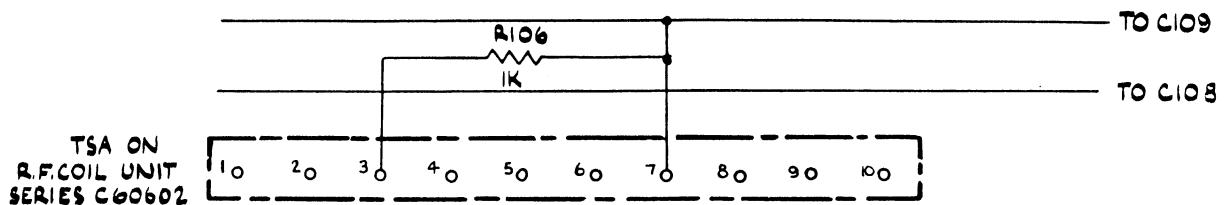

FIG. 1.
1. THE DECOUPLING RESISTOR R106 DRQ 60600Q2 HAS BEEN REMOVED FROM THE +150V LINE TO TSA7 AND CONNECTED IN SERIES WITH THE +150V. LINE TO TSA3. THIS MODIFICATION APPLIES TO ALL RECEIVERS AND IS SHOWN IN FIG. 1.